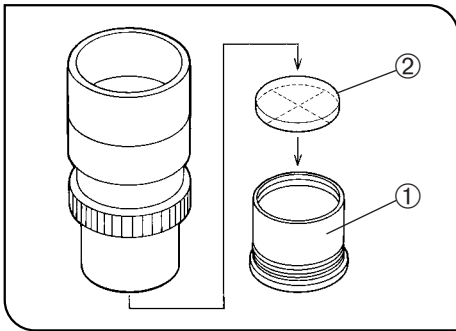

Fig. 14
**5 Using the Eyepiece Micrometer Disk** (Fig. 14)
1. Unscrew and remove the ring ① from the bottom of an eyepiece.
2. Clean an eyepiece micrometer disk ② (  $\phi$  24 mm dia., 1.5 mm thick) to remove dust and dirt, then place the disk into the ring ① so that the side with reticle ③ faces downward.
3. Attach the ring ① with the eyepiece micrometer disk by gently screwing it clockwise onto the eyepiece